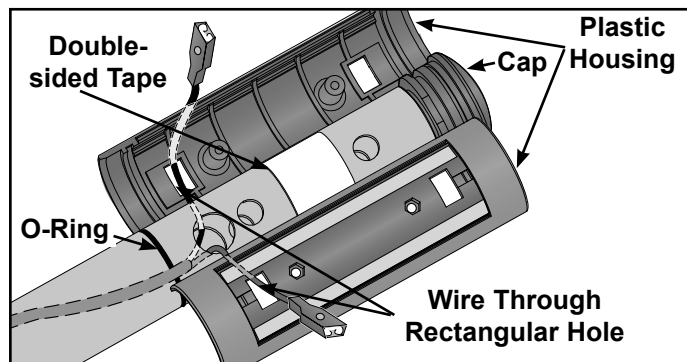

Figure 27
- Pull the plastic housing and cap off each handrail (the housing is secured with double-sided tape). See Figure 27.
- Gently push each connector out of the rectangular hole in the plastic housing. See Figure 27.
- Remove the old o-ring from each handrail. See Figure 27.